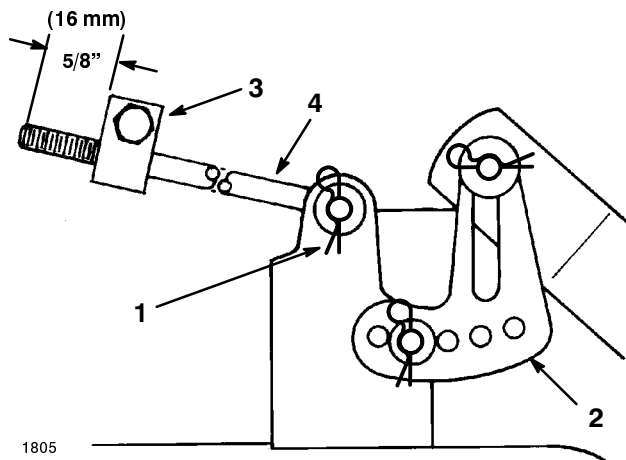

Figure 49
3. Measure the length of the rod extending out the front of the adjusting block on the sides of the chassis (Fig. 49). If the rod length is not $5/8''$ (16 mm), remove the hair pin cotter and washer from the end of the rod (Fig. 49), and turn the rod until the $5/8''$ (16 mm) dimension is obtained. Then install the end of the rod into the hole in the mower mount and secure it in place with the washer and hair pin cotter. Repeat this procedure on the opposite side.